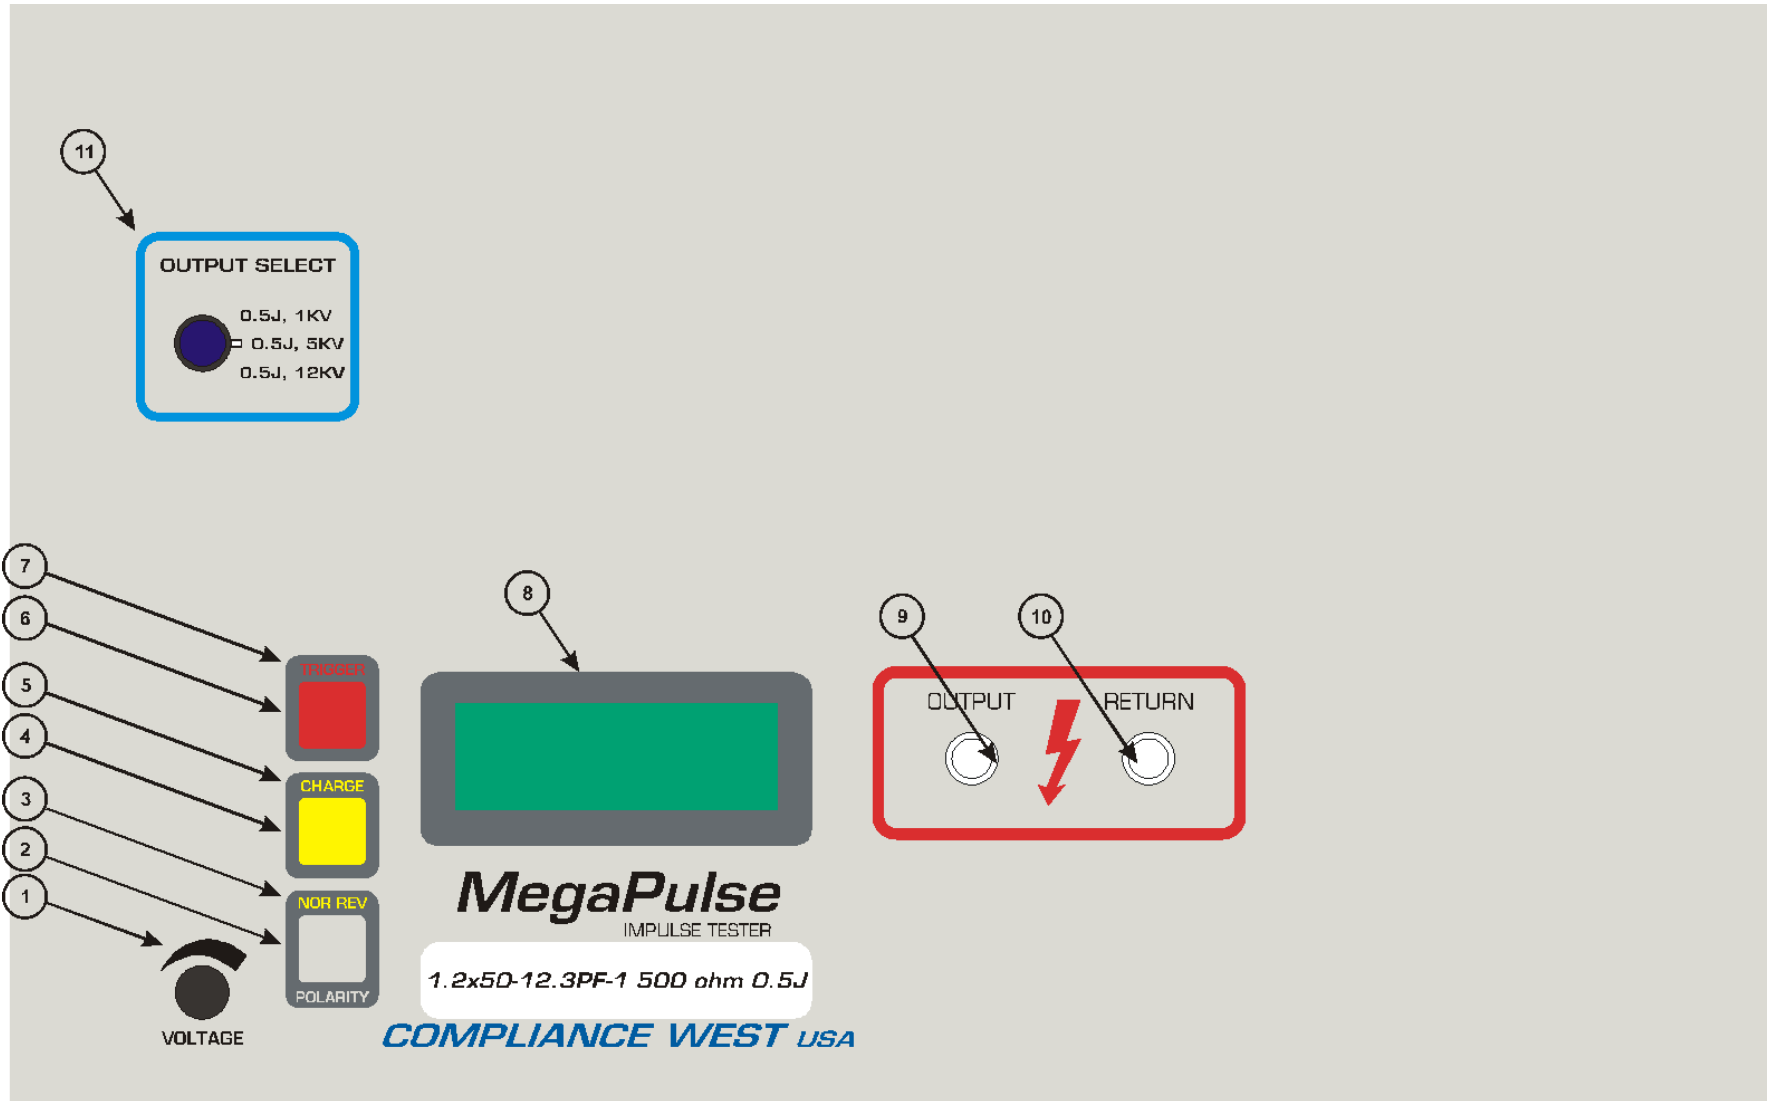

Figure 6. Controls, Indicators, Connectors – MegaPulse 1.2x50-12.3PF-1 500ohm 0.5J Front Panel (image for reference only)
Before using your Tester, take a few minutes to become familiar with the use of its controls, indicators and connectors. The front panel features of the MegaPulse are shown in **Figure 6** and described in **Table 2**. The rear panel features of the MegaPulse are shown in **Figure 7** and described in **Table 3**.
Select the desired output using the Output switch (if apply, **Figure 6** item 11). Adjust the output voltage setting using the Voltage adjust knob (**Figure 6** item 1) to the voltage specified in **Table 4**. Note that the front panel meter reads the voltage of C1. Depending on the waveshaping network that is selected, this voltage will be higher than the peak voltage of the output waveform. **CAUTION: DO NOT SET THE VOLTAGE ABOVE THE MAXIMUM VOLTAGE SETTING SPECIFIED IN Table 4. DOING SO MAY DAMAGE THE EQUIPMENT**